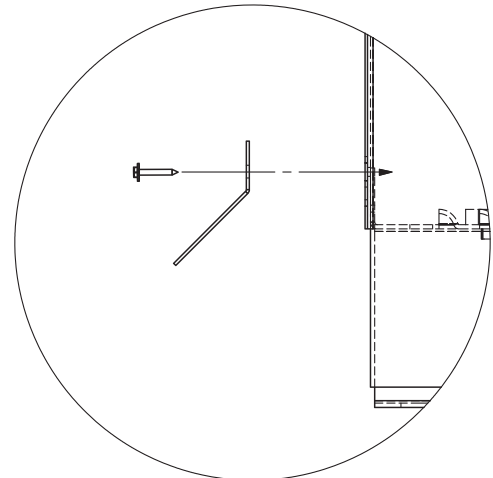

FIGURE 2 - RAIN DEFLECTOR
- 9) Line up the rain deflector mounting holes with the existing holes in the enclosure. Using the screws removed in step 8, secure the rain deflector to the enclosure - see figure 2.